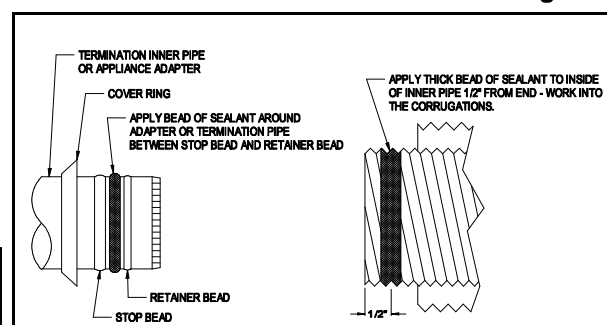

Figure 8
5. Remove all oil and grease from end of termination inner pipe or appliance adapter, and apply a bead of sealant to between the stop bead and retainer bead (Figure 8).
6. Apply a thick bead of sealant to inside of inner vent pipe 1/2" from the end of pipe, working the sealant into the corrugations (Figure 8).